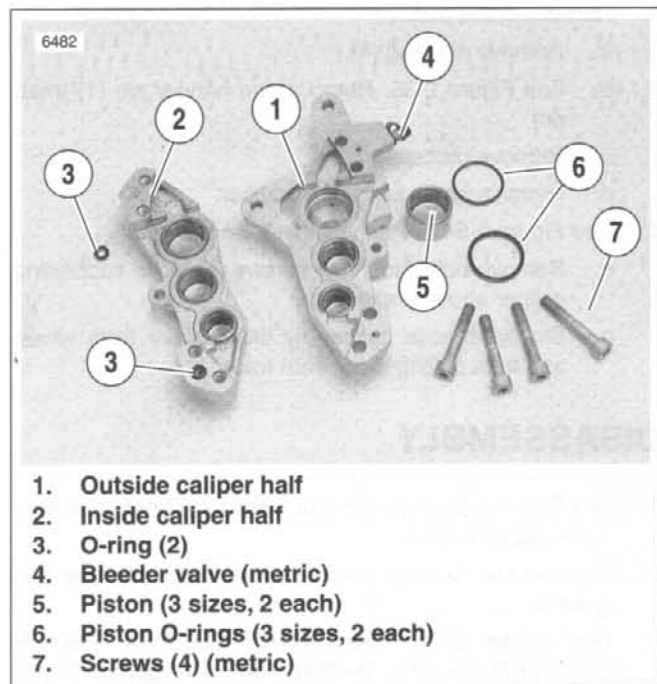

Figure 2-37. Caliper O-rings and Pistons
4. See Figure 2-37. Pry O-rings (6) out of their respective grooves on each side of caliper. Discard O-rings.
5. Check bleeder valve (4) (metric). Remove and replace if damaged.
1. See Figure 2-37. Install pistons and O-rings.
- b. Install two **new** O-rings (6) in grooves of each piston bore.
- c. Install pistons (5) in each piston bore.
2. Install two **new** O-rings (3) between caliper halves.
3. Attach caliper halves together with four screws (7) (metric). Tighten to 14.5-18 ft-lbs (19.6-24.4 Nm).
4. Install a **new** bleeder valve (4) (metric) if necessary. Tighten to 3-5 ft-lbs (4.1-6.8 Nm).